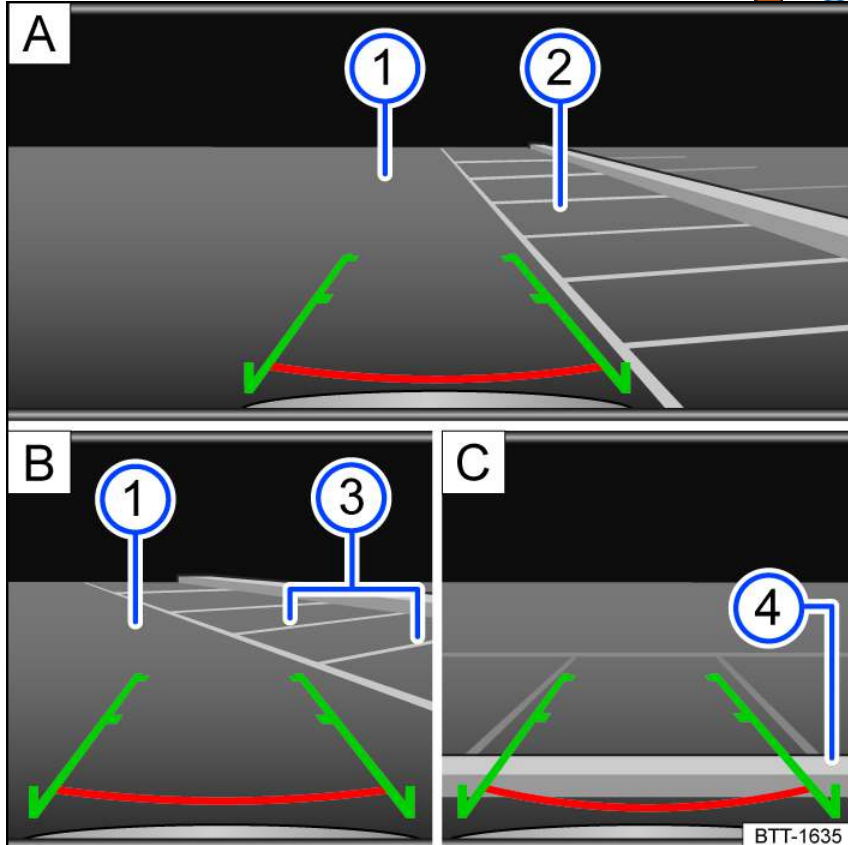

Fig. 108 Infotainment system: Parking with the Rear View Camera system.
① Road surface.
② Selected parking space.
③ Side boundaries of the selected parking space.
④ Rear boundary of the parking space.
1. Position your vehicle in front of the parking space *fig. 108* **A** ②.
3. Slowly reverse while steering so that the green side lines line up with the selected parking space. The green lines must line up with the side boundaries of your parking space *fig. 108* **B** ③.
4. Stop when the red horizontal line reaches the rear boundary *fig. 108* **C** ④.